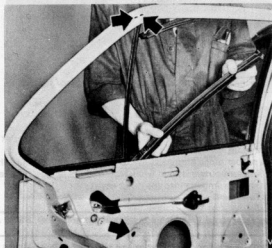

Fig. 12.14. Removing the rear window glass channel (Sec. 14)
- 3 To remove the window glass, remove the rear window channel by undoing the two screws on the upper window channel and the bolt on the inner door panel (see Fig. 12.14).